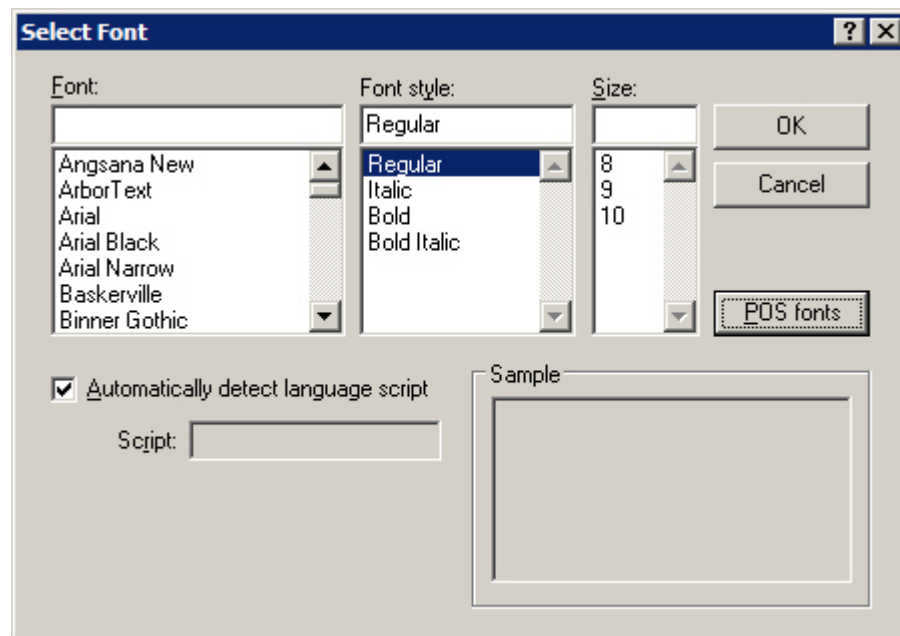

Figure 29. Example Select Font window including non-IBM TrueType fonts
6. If you have received authorization, click **Yes**. The Select Font window is updated to list all of the TrueType fonts installed on your computer (see Figure 29).